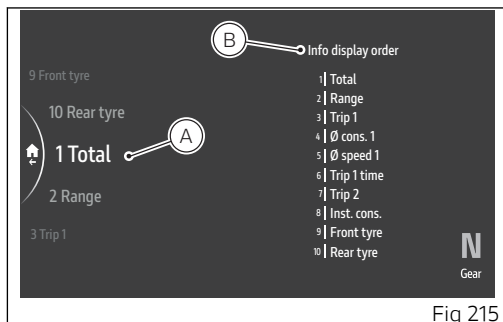

Fig 215
The list of the 10 selectable items, with the number of their current position (A, Fig 215) is displayed in the middle. The current order of the Info display (B, Fig 215) is displayed on the right-hand side.
- Use the joystick ▲ ▼ to select “Total” and press ENTER (Fig 215).
To restore the original order, select the "Default" item and press ENTER: "Wait..." is displayed for a few seconds followed by "Restored". Then, "Default" item disappears from the menu list, while the positions of the items and the current order of the Info display are restored to their original conditions (Fig 215).